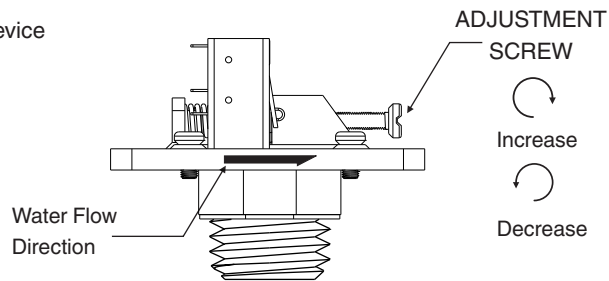

Fig.2. Paddle Tension Adjustment System
Paddle tension to suit flow can be changed by adjusting the setting screw as shown in fig.2.
- Care must be taken to properly orient the device for the direction of flow.(fig.2)